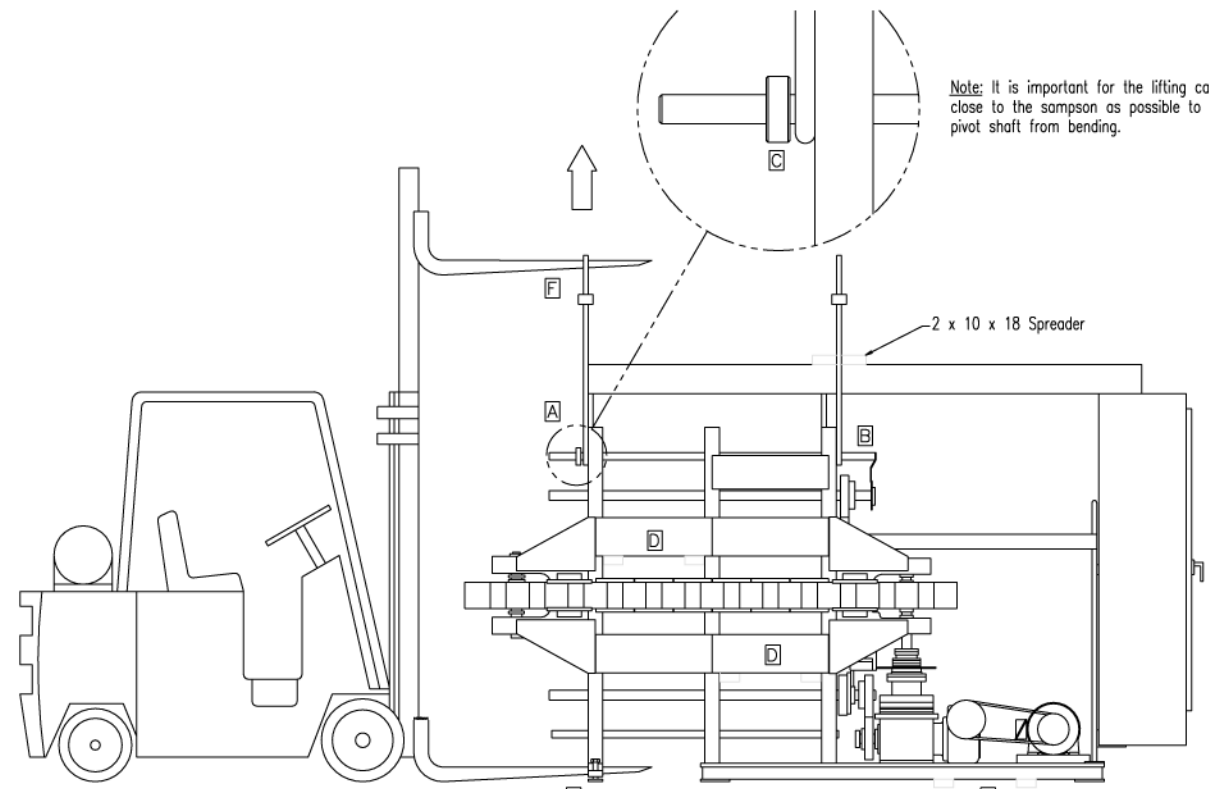

Figure 4
**ALTERNATE METHODS:** Figures 4 and 5: Using lift trucks or overhead cranes and two 5/8 inch wire cable, lift by [A] The upper pivot shaft idler end, and [B] the upper pivot shaft drive end. Use a spreader to protect the upper electrical cabinet. A pivot shaft collar [C] will be provided to eliminate possible cable slippage.
**NOTE:** On (7) and (8) bay machines, the idler end lift point will be the pivot shaft next to the 5th or 6th bay sampsons.